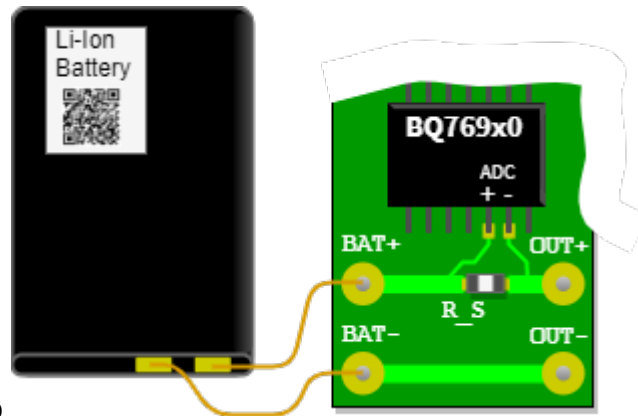

Fig. 24: Sketch of the setup
- The battery monitor BQ769x0 measures the charge and discharge currents of a lithium-ion battery by means of the voltage across a measuring resistor (shunt). In figure 24 the analog-to-digital converter (ADC) of this chip is connected to the shunt R_S via the circuit board. Through the shunt the discharge current flows from the battery connection $BAT+$ to $OUT+$ and via $OUT-$ back to $BAT-$. The shunt shall be designed so that the bipolar measurement signals have a voltage level in the range of -0.20 V to $+0.20\text{ V}$. The analog-to-digital converter has a resolution of $15\text{ }\mu\text{V}$. The currents can be used to count the charge in the battery to determine the state of charge (SOC).